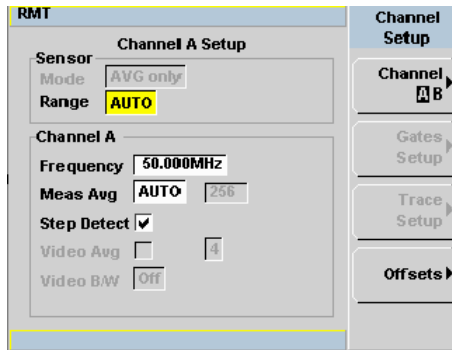

Figure 2-17 Channel Setup display
- 3 Press . The **Channel Setup** displays as shown in Figure 2-17.